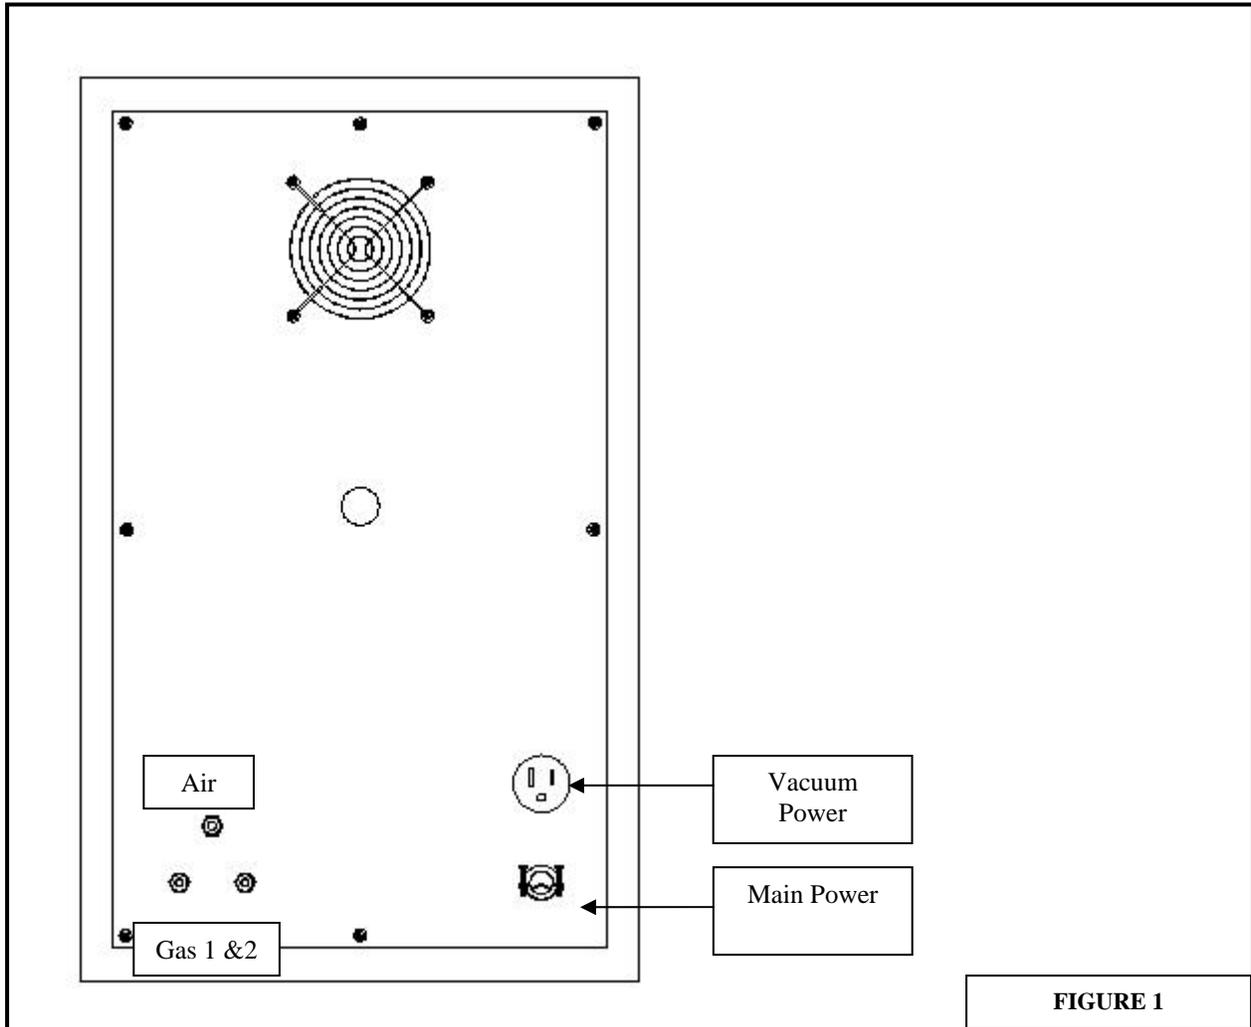

FIGURE 1
2.1 System operation is monitored and controlled through the Touch screen. Refer to **Figure 1** for locations.